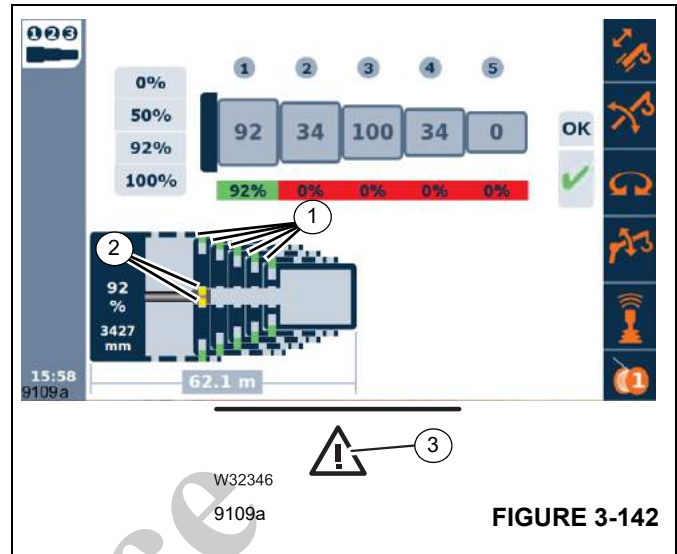

FIGURE 3-142
Current relation of the telescopic sections to each other – section of top view (Figure 3-142).
The image shown in (Figure 3-142) shows the status of the section and cylinder pins. Green (1) indicates that the pin is locked, Yellow (2) shows that it is in an intermediate position